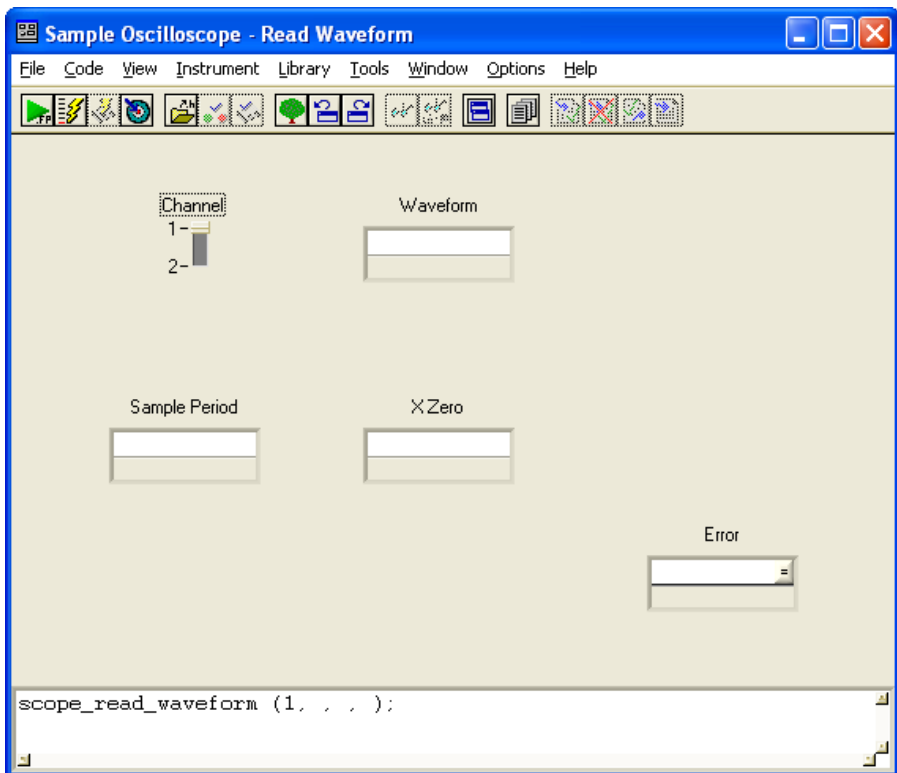

Figure 3-10. Read Waveform Function Panel
2. In the Read Waveform function panel, shown in Figure 3-10, set the **Channel** control to 2. Channel 1 is sine wave data, and Channel 2 is random data.